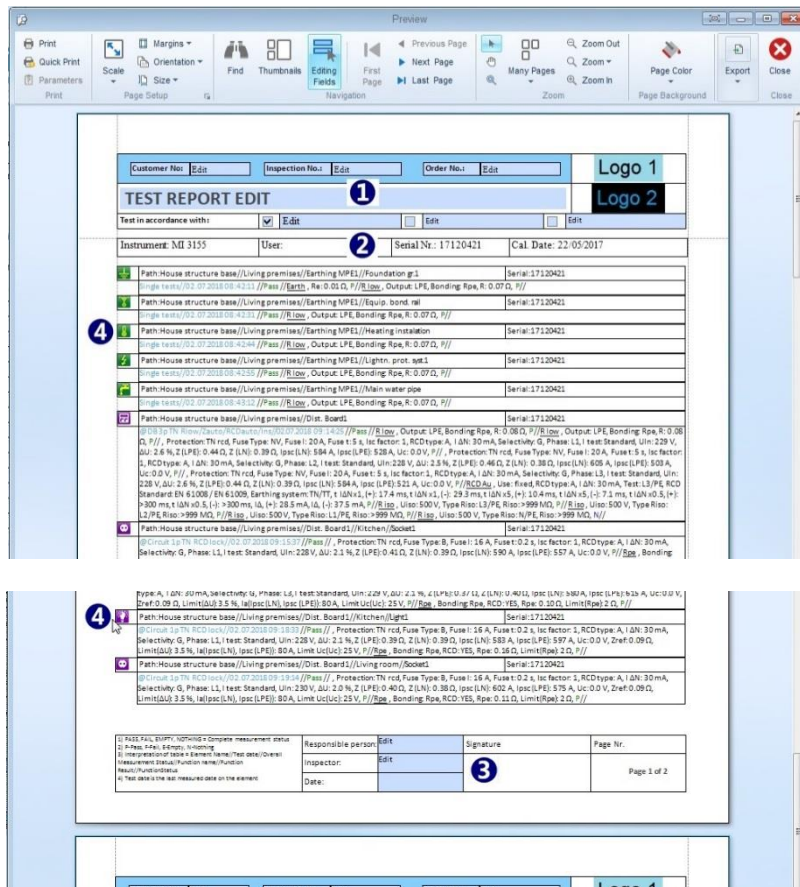

Figure 9.4: Basic report document format preview
- Click on  within Tools group of Home menu tab opens Test project Basic report document in Preview manager window, **Figure 9.4**.
- **Header** of Test project Basic report document (❶) appear on the top of each page:
- Complete **Instrument data** (❷) appear on the beginning of Results list on first page only, was set automatically when Data structure file was downloaded.
- **Footer** of Test project Basic report document (❸) appear on the bottom of each page and contain:
- **Results** (❹) are presented in two table rows: